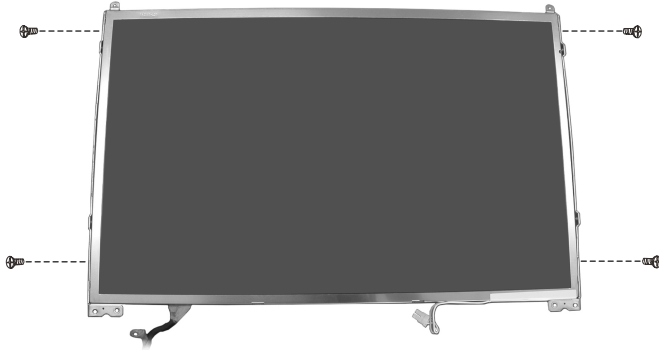

Figure 2-23 Remove the four screws
5. Remove the four screws that secure the LCD brackets. (Figure 2-23)